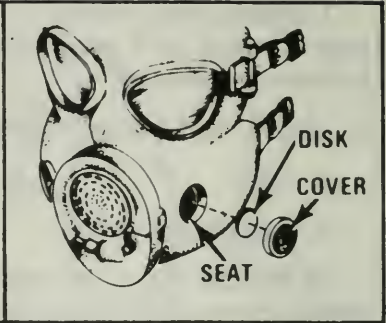

Figure 243. Inlet valve.
6. Check the inlet valves for the following (Figure 243).